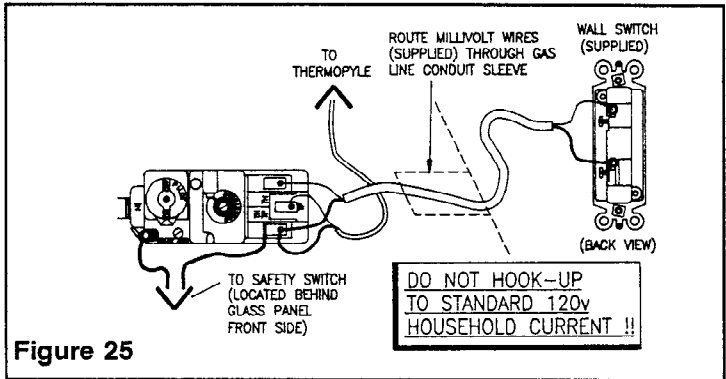

Figure 25
2. Using the **18ga. MILLIVOLT WIRE** and **WALL SWITCH** supplied with the appliance, connect per **Figure 25**.